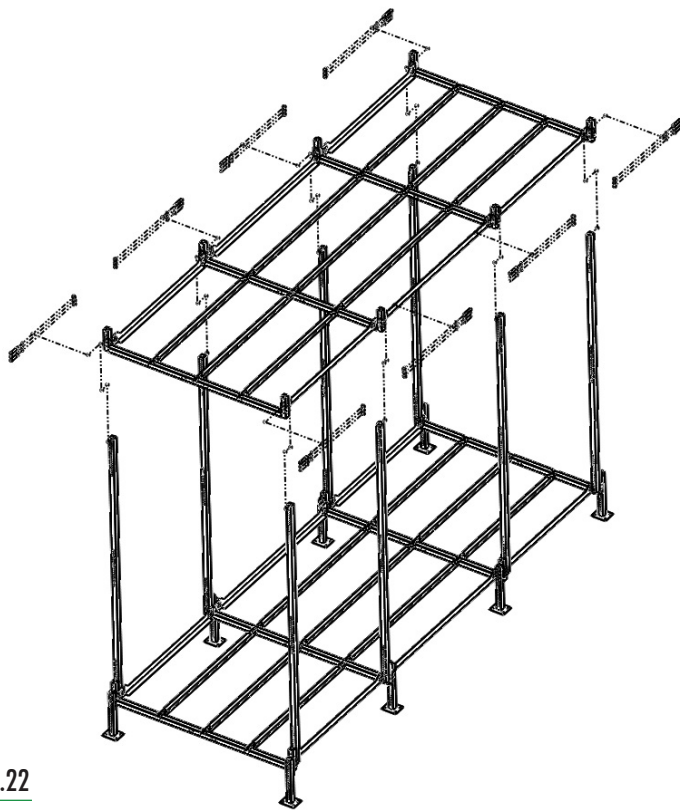

Fig. 22
- 5.2 Fix the pole to the second welded crossbar of the start frame of the second level with 3x bolt. ensure to include the side rail (1) correctly in the fixture as shown in Fig 22